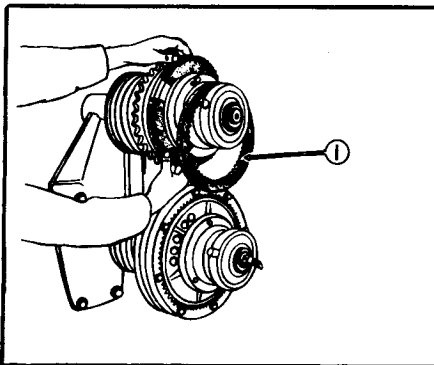

Figure 18 Removing Drive Plate Segments
Unbolt the driving ring (1), Figure 18, and slip toward the clutch cone assembly. The driving plate segments may now be easily removed.